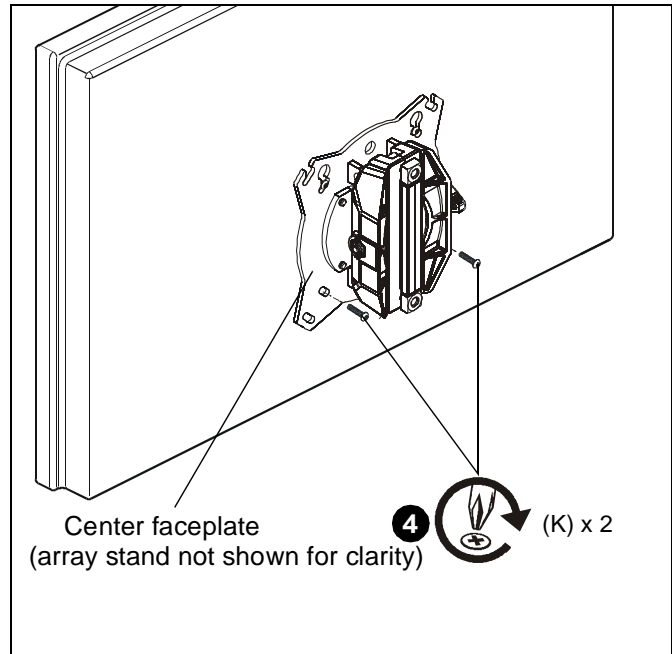

Figure 6
4. Using Phillips screwdriver, install two M4x12 mm Phillips pan machine screws (K) through the *lower* mounting holes on faceplate into the display. (See Figure 6)